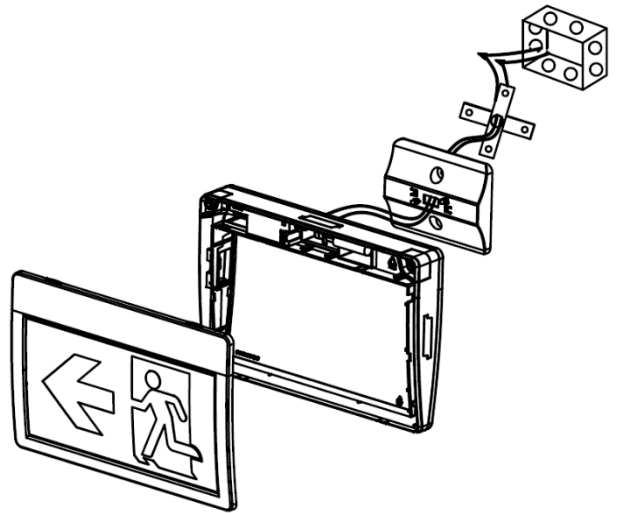

Fig 4
2. Knockout appropriate mount screw hole and cable hole, mount back plate on the wall after feed building AC supply cable into back plate (see Fig 4).
3. For ceiling and side mounting purpose, remove the mounting holes cover on the top or side of the unit (see Fig 4, 5, 6), assemble the canopy on the unit (see Fig 2).